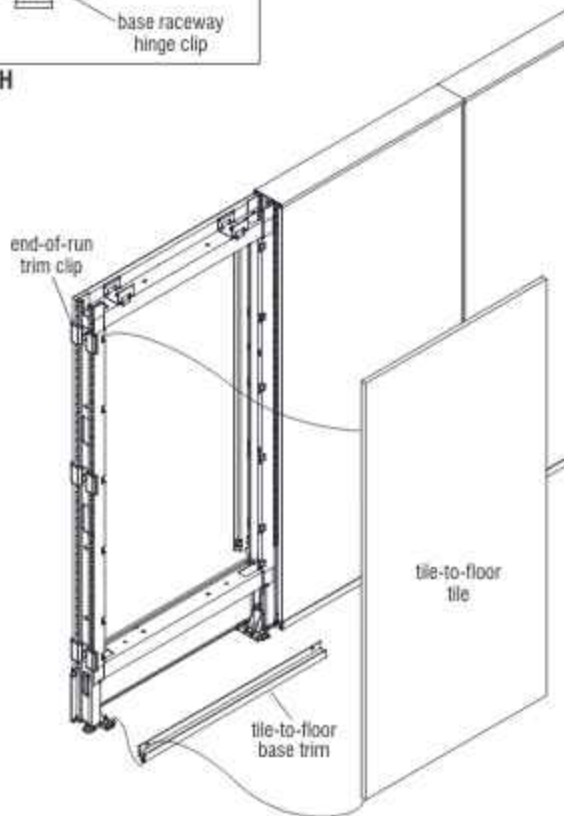

Figure 5 - Tile-to-Floor Tile Installation
2. Install a tile-to-floor base trim (extruded aluminum) to the bottom of the panel frame by positioning the bottom notch of the base trim onto the bumps of each base raceway hinge clip, then rotate vertically into place until the two horizontal flanges snap onto the flange of both glide housings (Figure 5, Details G & H).
3. Position the tile-to-floor tile such that the "open tabs" at the top of the vertical tile stiffeners are at the top of the panel frame (Figure 5).
4. Hold the tile up, then center and nest the bottom of the tile into the channel of the tile-to-floor base trim. Push the top of the tile against the frame and lift such that the tabs of the stiffeners enter the P-slots. Push in and down gently to allow tile bottom to nest down into the bottom channel of the tile-to-floor base trim (Figure 5).